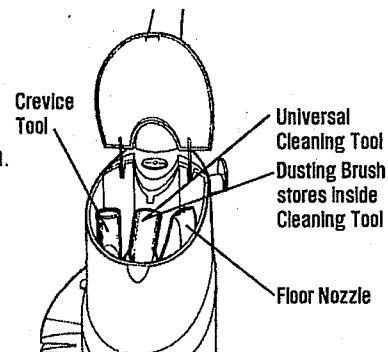

Figure 4
4. Nest the Dusting Brush inside the Universal Cleaning Tool, then fit the Universal Cleaning Tool into its specially designed storage area. (See Figure 4.)
5. Slide the Crevice Tool, large end up, into the rectangular hole on the side of the Tool Storage Compartment. Make sure that the angled tip of the Crevice Tool is pointing downwards. (See Figure 4.)
6. The Floor Nozzle lays on its side, with the tubing curved over the top in its own specially designed area. (See Figure 4.)